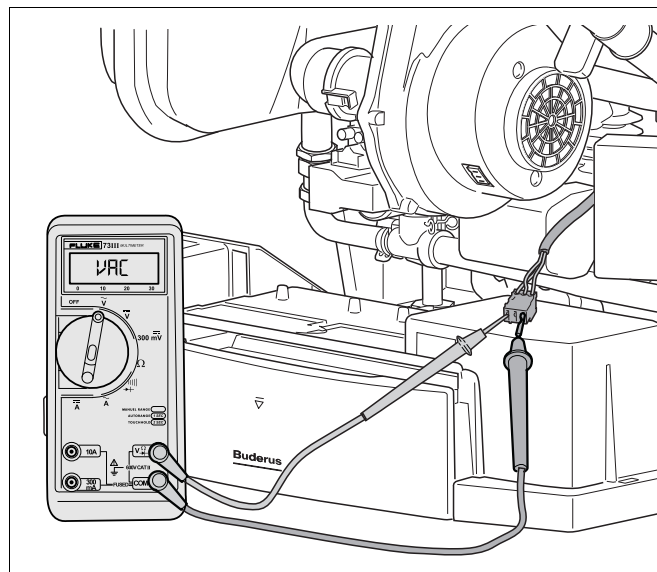

fig. 8 Checking for 120V AC voltage
- Connect the volt-ohm-multimeter to the outer two plug contacts (blue and brown) (see fig. 8).
- Check that while the operating code 0 L is displayed, 120V AC is available on the outer two contacts (blue and brown) of the plug (see fig. 8).